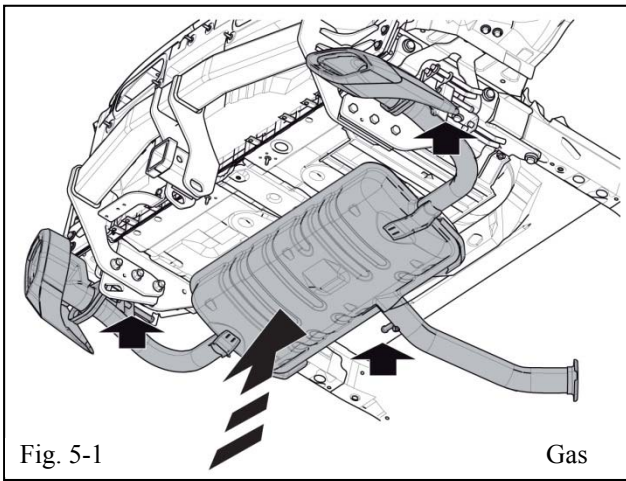

Fig. 5-1
- (a) Install the muffler removed in Step 3(j) (Gas, Fig. 5-1 & Hybrid Fig. 5-2). Reuse the rubber hangers.